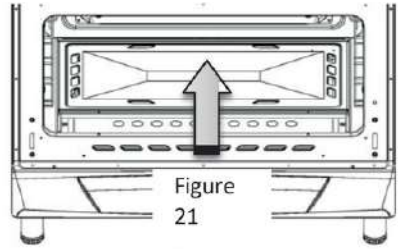

Figure 21
- Lift up the burner housing sheet first in the direction of the arrow, then upward towards the inside of the boiler, and pull towards you to remove the sheet from its place (Figure 21).